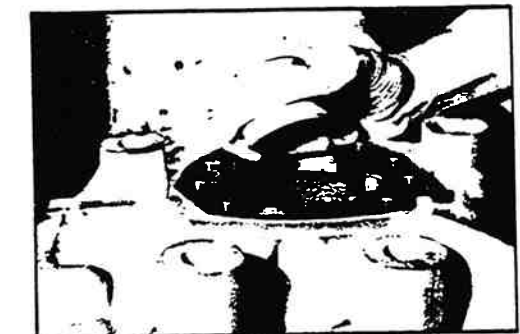

Figure 11-15. Removing Bearing.
If the bearing is damaged, or it becomes necessary to replace the housing bearing (2), remove the bearing in the following manner: Using bearing mandrel J26743, apply pressure from the side cover opening and press the bearing out through the trunnion cover opening (figure 11-15). Care must be taken to maintain a good, square contact between the housing and press base to avoid damaging the bearing bore. If the bearing is cocked during removal, it may burnish the bore, causing it to become oversized and to require replacement of the steering gear housing.